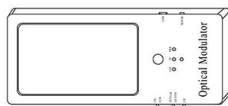

Figure1
A. CW/CCW is a toggle switch, which determines the 3D position relative direction of the host (Horizontal). When the English letter side faces you and the 3D indicator is bright (3D state), when the switch dials to CCW, the LCD will turn to your left hand side (Figure 1); when the switch dials to CW, the LCD will turn to your right hand side (Figure 2).